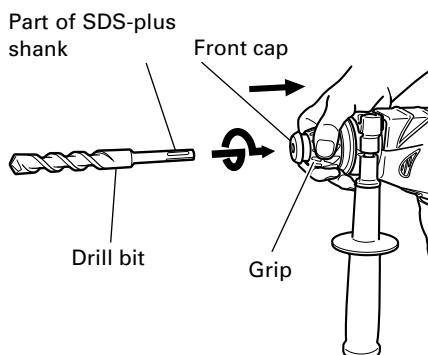

Fig. 2
## 6. Mounting the drill bit (Fig. 2)
- (1) Clean the shank portion of the drill bit.
- (2) To attach a drill bit (SDS-plus shank), fully pull the grip in the direction of the arrow as shown in Fig. 2 and insert the drill bit as far as it will go while manually turning.
- (3) By releasing the grip, the drill bit will be secured.
- (4) To remove the drill bit, fully pull the grip in the direction of the arrow and pull out the drill bit.